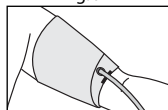

Fig. 10
6. If the arm has a conic form, the cuff should be put on with a spiral movement as shown in the fig. 10.